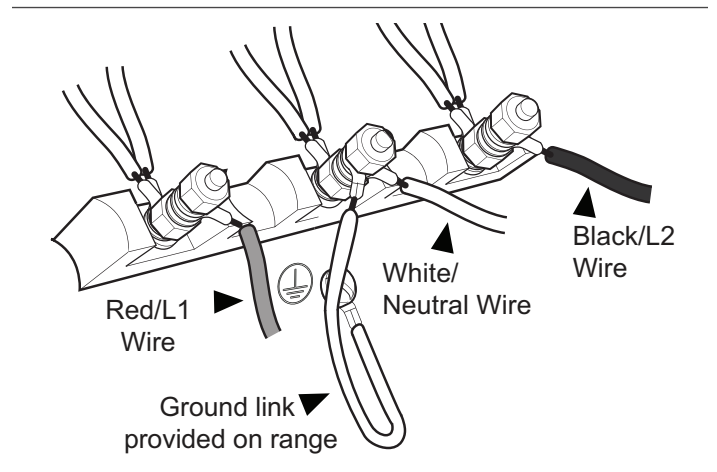

Figure 12: 3-Wire Connection
- Secure the neutral, grounded wire of the supply circuit, to the center stud (silver colored) of the terminal block (see *Figure 12*).